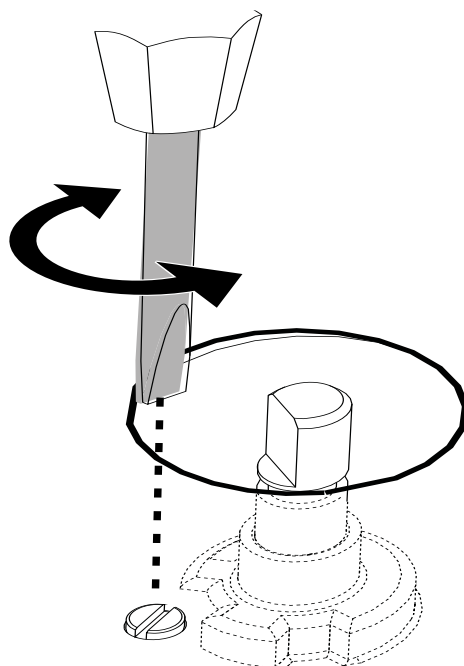

Fig. B1
4. Using a small flathead screwdriver, unscrew, turning to the left, to increase the flame, or screw to the right to decrease it: the by-pass to be adjusted is indicated by the figure B1 and B2.